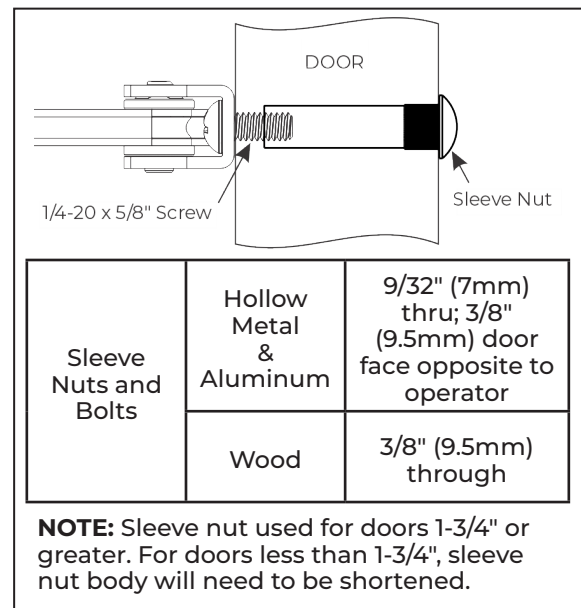

Figure 5
- Reference Figure 5 and use** 1/4-20 x 5/8" screws with sleeve nuts.
- For wood doors:** Reference Figure 5 and use 1/4-20 x 5/8" screws with sleeve nuts.